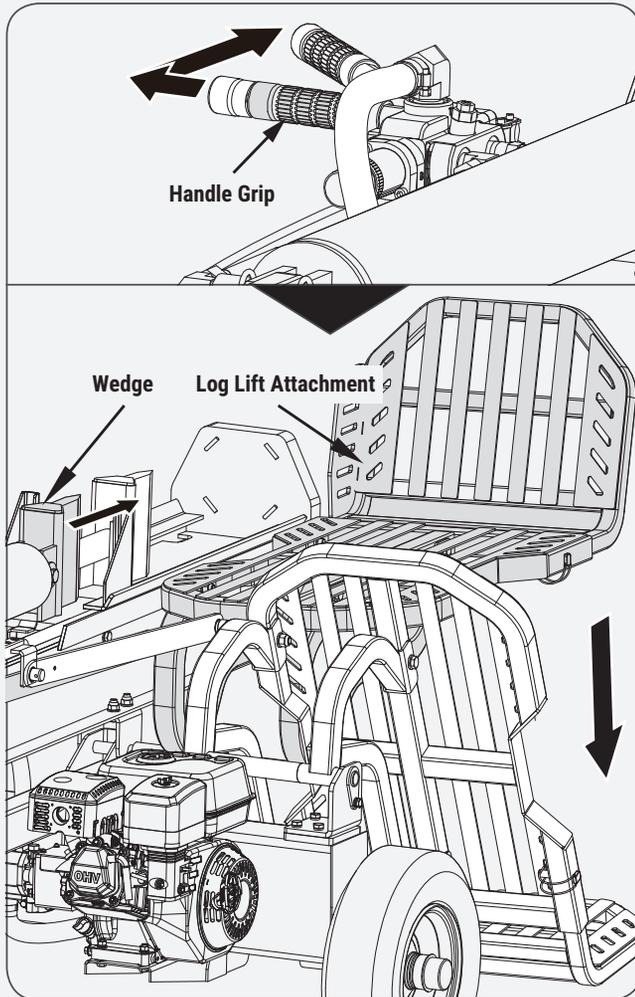

Figure 27a
1. When the log lift table attachment is flush with the beam, pull the control lever of the control valve outward while pushing it forward. then the wedge moves forward, and at the same time, the log lift table attachment will go downward. When it lands, release the control lever. (See **Figure 27a.**)